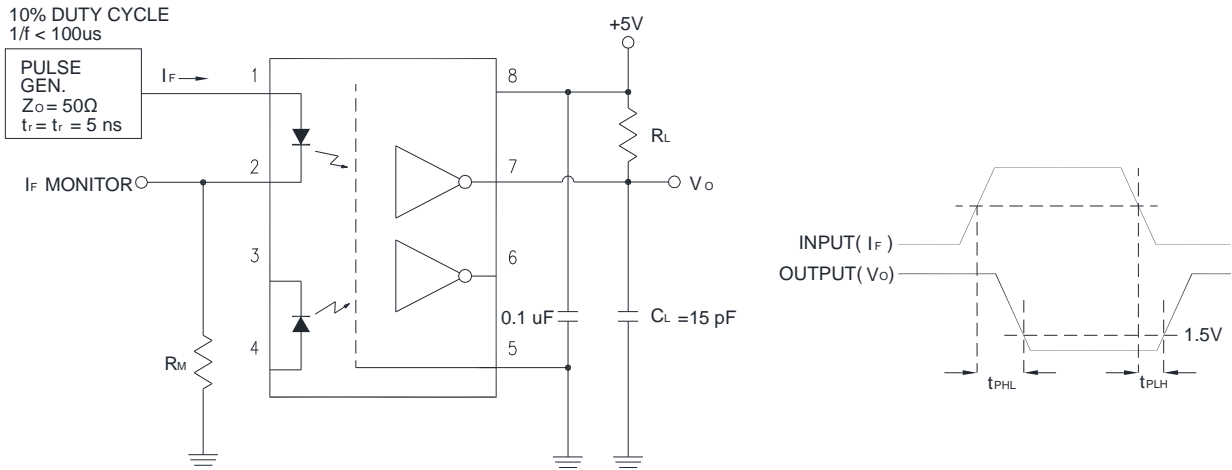

Figure 1: Test Circuit for  $t_{PHL}$  and  $t_{PLH}$
1. A 0.1 $\mu$ F or bigger bypass capacitor for  $V_{CC}$  is needed as shown in Fig.1